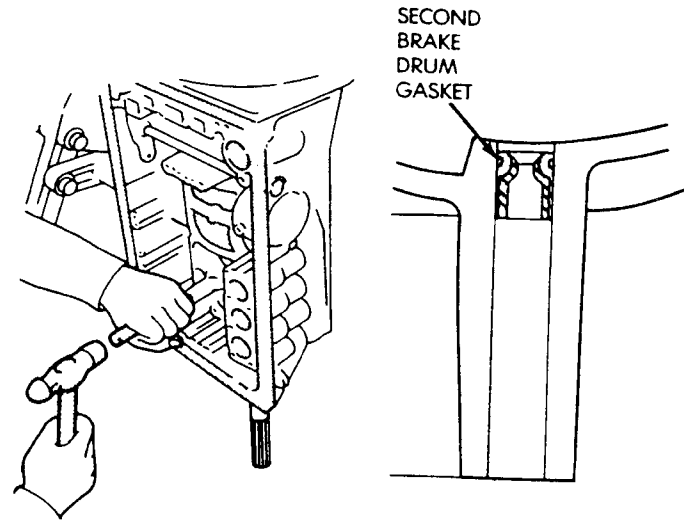

Fig. 48 Removing Brake Drum Gasket
(57) Remove second brake drum gasket from case with gasket scraper or screwdriver (Fig. 48).